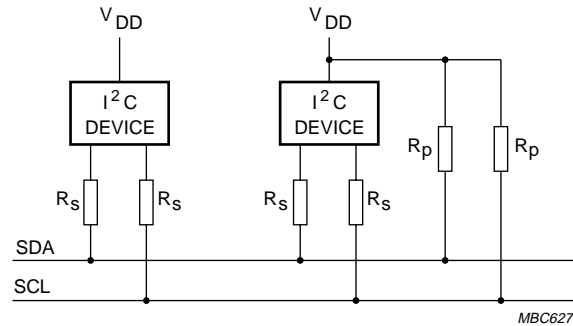

Fig.36 Series resistors (R_S) for protection against high-voltage spikes.
- As shown in Fig.36, series resistors (R_S) of e.g. 300 Ω can be used for protection against high-voltage spikes on the SDA and SCL lines (resulting from the flash-over of a TV picture tube, for example).